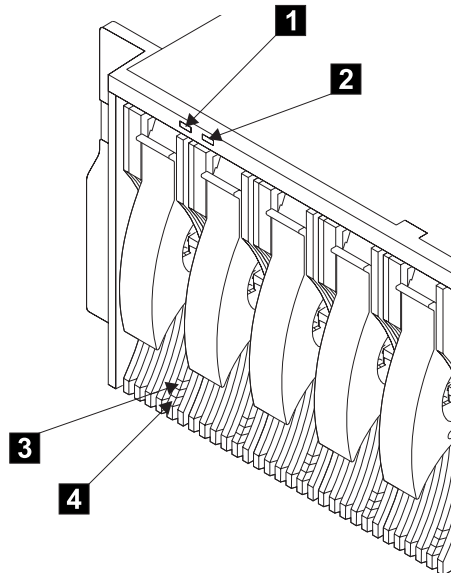

Figure 26. Checking the Lights
2. Refer to Figure 26.
Configuration is complete when the lights on the 2104, and its installed disk drive modules, are as described here (refer to Figure 26):